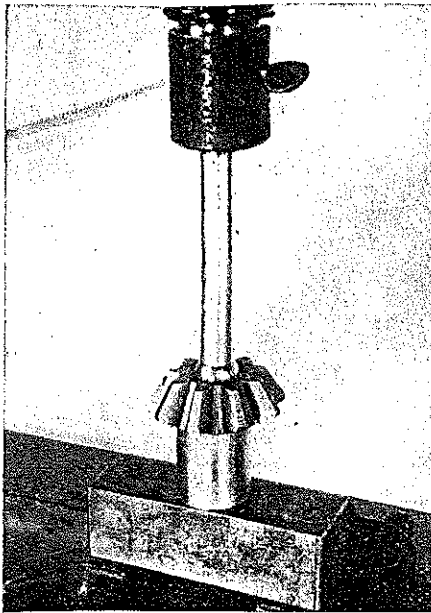
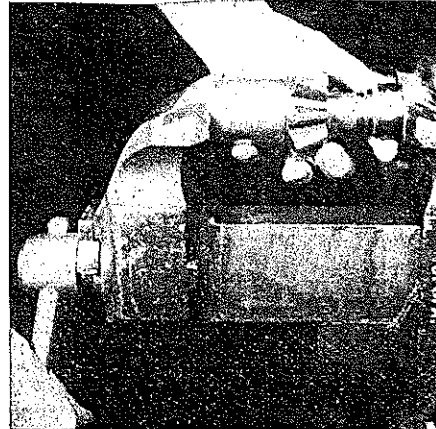

Fig. 167 Using a bar to press burnishing ball through bushing
Fig. 168 Using short bar and vise to install bushing in differential pinion
4. Use bar to press burnishing ball through bushing, Fig. 167. If desirable, the bar may be shortened to permit the use of a bench vise to install and burnish bushing, Fig. 168.